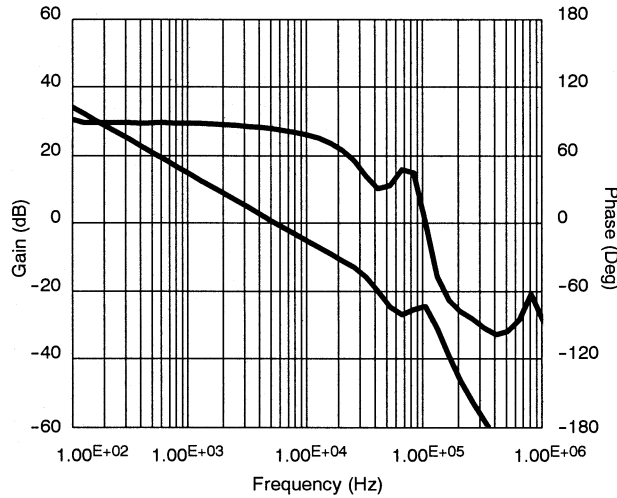
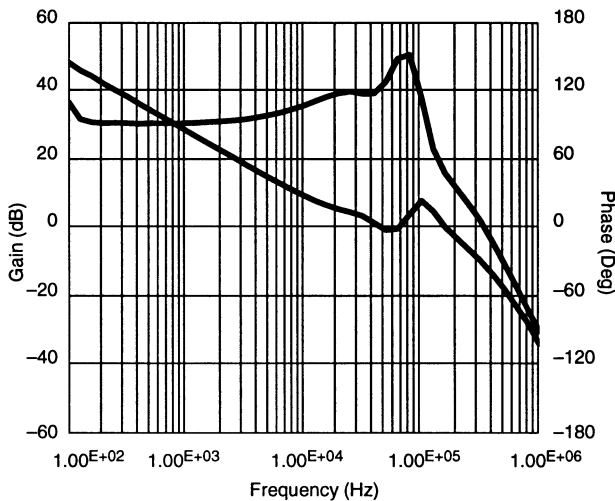
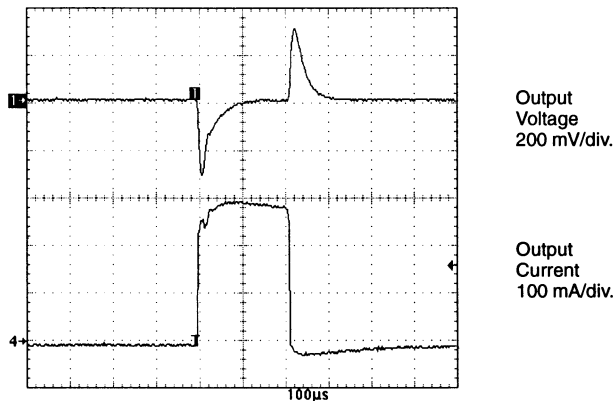

FIGURE 6. Buck Converter Loop Gain with Type I Compensation
FIGURE 7. Buck Converter Loop Gain with Type III Compensation
FIGURE 8. Buck Load Transient w/Type I Compensation
For voltage mode control, a simple Type I or II compensation network can easily stabilize the loop but at a cost of lower BW, which has to be at least one decade below the L-C corner frequency to preserve a good stability margin. However, Type III compensation, a more complicated design, enables higher BW even above the L-C double-pole. A buck converter is used as an example here to illustrate the difference between Type I (Figure 6) and Type III (Figure 7) compensation. With the switching frequency set to 2 MHz, a 1.5- μH to 10- μF L-C pair is used for the power stage, producing a double pole at 40 kHz. The loop gain Bode plots are measured for both types under the same conditions: $V_{IN} = 3.6 \text{ V}$, $V_{OUT} = 2.7 \text{ V}$, load = 300 mA. (See Figures 8 and 9). The BW is considerably higher with Type III compensation. The resulting transient waveforms for the two loops (Figures 10 and 11) show a notable improvement in both over/undershoot magnitude and recovery time with Type III compensation.
The values shown in Figure 7 work well for the Si9165 buck converter with a 3.6-V input, so long as the switching frequency is above 500 kHz, which is the range Si9165 is optimized for. Since the converter power stage gain varies with input voltage, the compensation circuit needs to be adjusted accordingly to maintain a stability margin. The circuitry in Figure 7 offers fast response with a sufficient stability margin for input voltages below 3.6 V. If the input voltage is above 3.6 V, the power stage gain, also part of the loop gain, elevates to a level that will endanger both the phase margin and gain margin of the control loop. Fortunately for buck converters, a simple change on the input lead capacitor C_3 can help compensate for this. The value can be adjusted by the simple equation shown below:
All these factors can change the loop response as line and load conditions change. Hence, when good transient response is required and a Type III network is used, the component values need to be altered to compensate for these changes. There are many ways to accomplish this. Here is one approach that lowers the entire loop gain to preserve a stability margin. The feedback R_4 - C_4 in series in Figure 7 can be modified as
C_4 is used to adjust the gain at dc and low frequency, while R_4 is also adjusted so that the zero created by C_4 - R_4 stays at the same frequency. The phase margin will diminish as load current increases indefinitely, since the RHP zero will close in to the crossover frequency. The design given in Figure 7 and its adjustment in (9), (10), and (11) are good for 600-mA loads, which is the maximum the Si9165 is designed for.